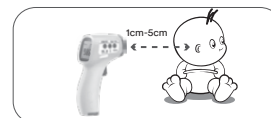

Figure 3: Align behind the ears to take measurement
- If for some reason the forehead temperature is low, a body temperature can be taken behind the ears. See Figure 3.